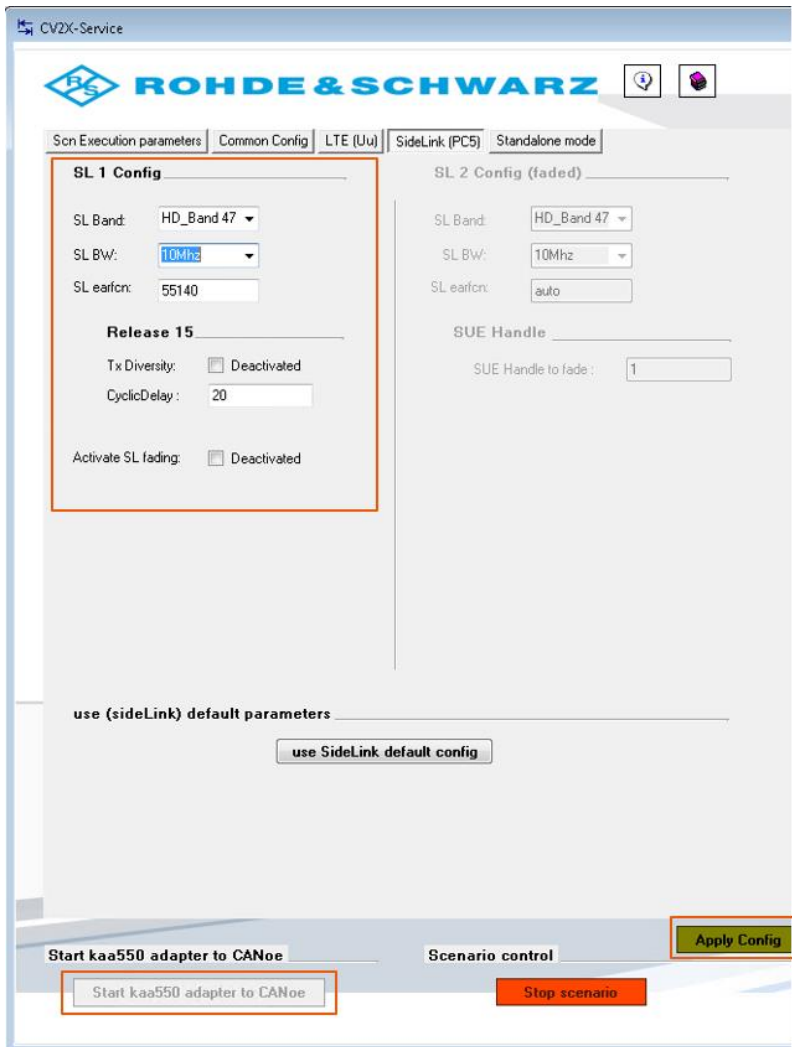

Figure 7: PC5 configuration
- ▶ After all the parameters are filled in, Apply Config and Connect CANoe (Figure 7)